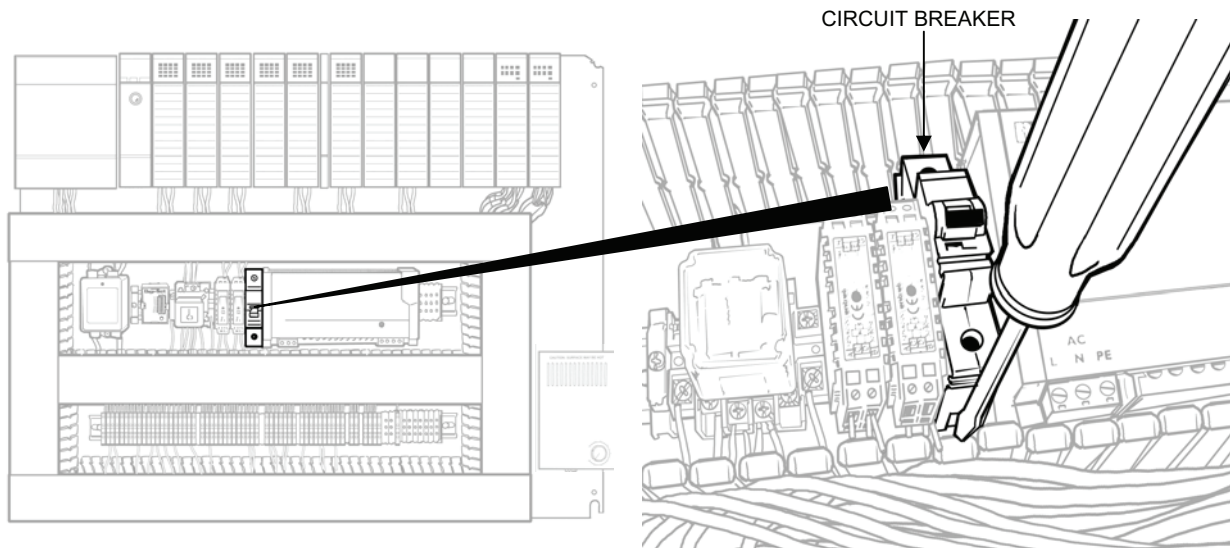

Figure 15. Circuit Breaker Removal.
3. Remove the circuit breaker as follows (see Figure 15):